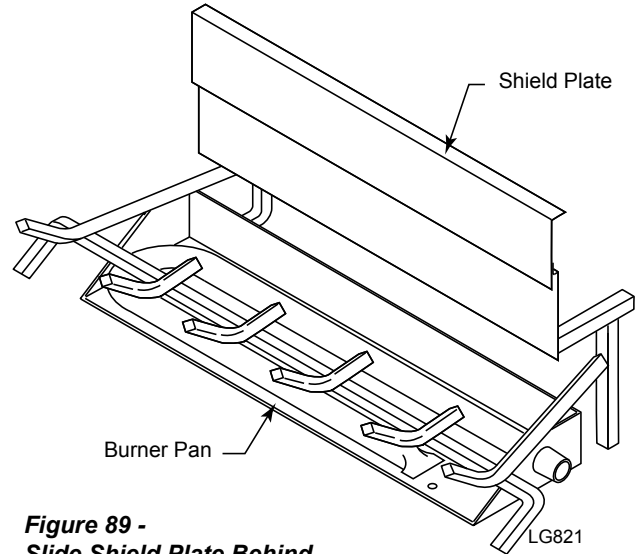

**Figure 87 -
- Lay top center log #7 across log #3 with front end resting on Log #5. *Figure 87*
- Place front end of top left log #8 on log #7. Allow back end of log #8 to rest on log #6. *Figure 87*